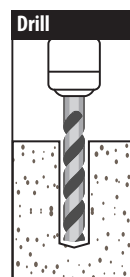
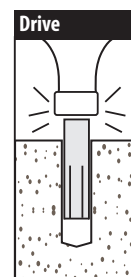

Fig 1
Fig 2
**2.** Move the equipment safely out of the work area. In the marked locations from Step 1, drill  $\frac{3}{8}$ " holes using the hammer drill <Fig 1>. With a hammer, tap each anchor (included) to  $\frac{1}{8}$ " below the floor surface <Fig 2>. Set the anchor by using a punch to drive the anchor insert towards the bottom of the anchor <Fig 3>.